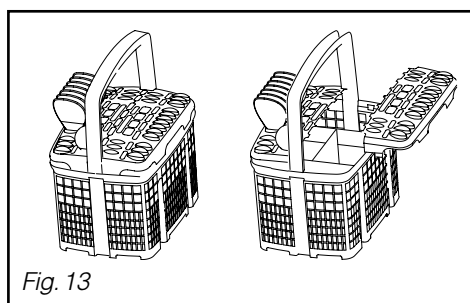

Fig. 13
***Movable grills are available if you wish to load your cutlery in an orderly manner*** (Fig. 13).